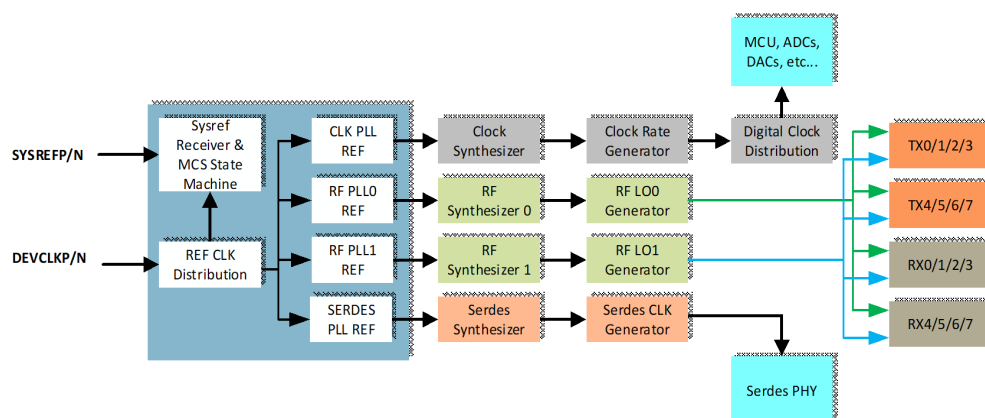

Figure 86. Synthesizer Interconnection and Clock/LO Distribution Block Diagram
Figure 86 below illustrates the transmit analog front end used in the ADRV903x family of devices. It is duplicated eight times for each transmitter. Each transmitter consists of a tuning baseband low pass filter, up-convert quadrature mixers and a RF variable gain amplifier. The baseband filter has a tunable bandwidth of 300MHz to 840MHz. The bandwidth is tuned at initialization via the loopback path and implemented in the ARM firmware. The up converter has fixed gain which reduces quadrature errors that would be associated with attenuation changes in the mixer stages. A unique architecture of up converters was chosen to reduce 3rd and 5th harmonics. By lowering these harmonics reduces the linearity requirements of the RF VGA as well as reducing the risk of aliasing these harmonics in the TX loopback path.
The ADRV903x has four phase locked loop (PLL) synthesizers: Clock, RF (x2), and SERDES. Each PLL is based on a fractional-N architecture and consists of a reference clock divider, phase frequency detector, charge pump, loop filter, feedback divider and high-performance voltage-controlled oscillator cores (VCO). The SERDES PLL VCO's tuning range is 8.125 GHz to 16.25 GHz. The CLK PLL, RF PLL0 and RF PLL1 VCOs have a tuning range of 7.1 GHz to 14.2 GHz. Each RF PLL drives its own local oscillator (LO) generator block. The output of the LOGEN block is a divided version of the VCO frequency. The LO divide range goes in binary steps from 2 to 512. No external components are required to cover the entire frequency range. The reference frequency for the PLL is a scaled version of the input device clock (DEVCLK). Figure 86 below illustrates the PLL & associated distribution blocks used in the ADRV903x family of devices.